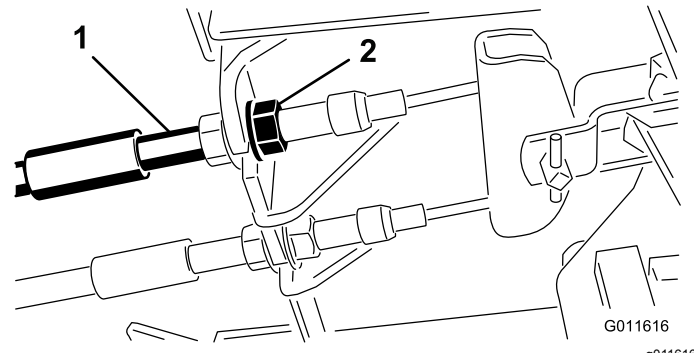

Figure 95
1. To reduce free travel of the brake pedals, tighten the brakes by loosening the front nut on the threaded end of the brake cable (Figure 95).